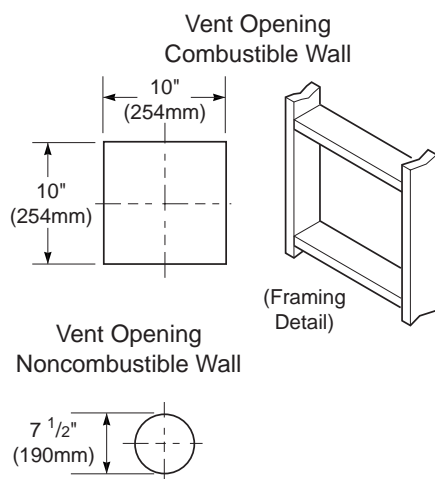
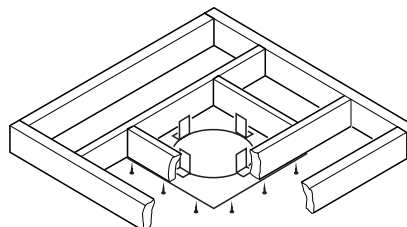

Figure 13 - Vent Opening Requirements
Figure 23 - Installing Firestop
3. Attach vent pipe assembly to the fireplace. Set fireplace in front of its permanent location to insure minimum clearances. Mark the wall for a 10" square hole (for noncombustible material such as masonry block or concrete, a 7 1/2" diameter hole is acceptable). See Figure 13. The center of the hole should line up with the center-line of the horizontal rigid vent pipe. Cut a 10"x10" (254mm x 254mm) square hole through combustible exterior wall (7 1/2" [190mm] diameter hole if non-combustible). Frame as necessary (see Figure 13).
1. Cut a 10" square hole in the ceiling using the locating hole as a center point. The opening should be framed to 10"x10" (254mm x 254mm) inside dimensions, as shown in Figure 13 on page 9 using framing lumber the same size as the ceiling joists. If the area above the ceiling is an insulated ceiling or a room, nail firestop from the top side. This prevents loose insulation from falling into the required clearance space. Otherwise, install firestop below the framed hole. The firestop should be installed with no less than three nails per side (see Figure 23).
3. Cut a hole in the roof using the locating hole as a center point. (Cover any exposed open vent pipes before cutting hole in roof.) The 10"x10" hole must be measured on the horizontal; actual length may be larger depending on the pitch of the roof. There must be a 1" clearance from the vent pipe to combustible materials. Frame the opening as shown in Figure 13 on page 9.